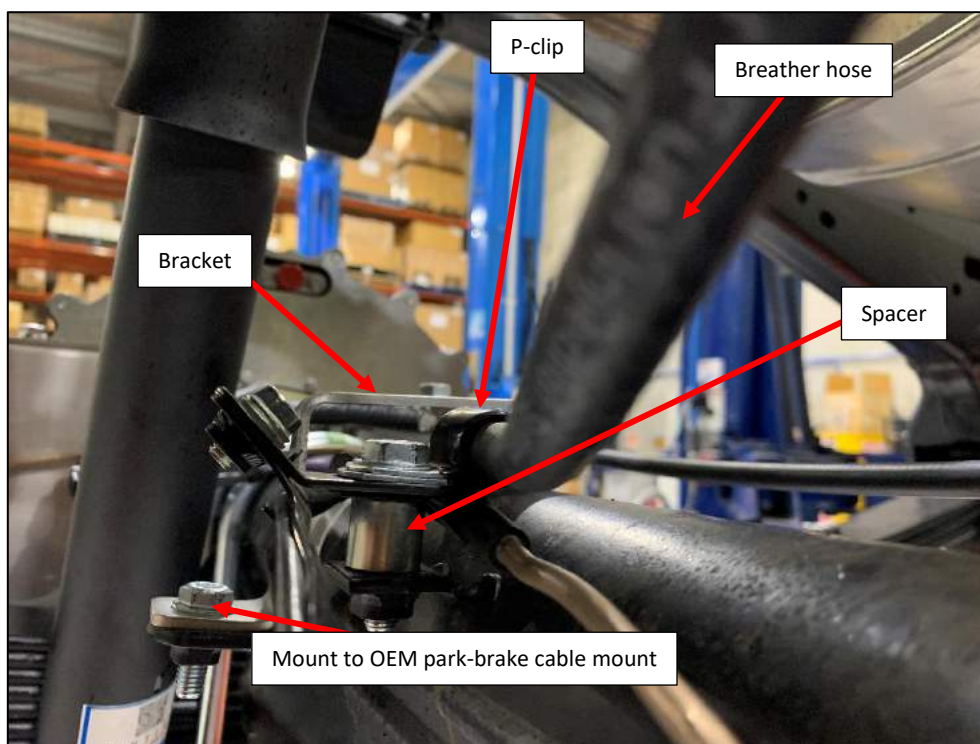

Figure 51
41. The breather hose should be secured using P-clips, the stainless bracket and the supplied mounting hardware (Figure 51). Use the same mounting pipes as the brake lines but add a spacer between the P-clips.